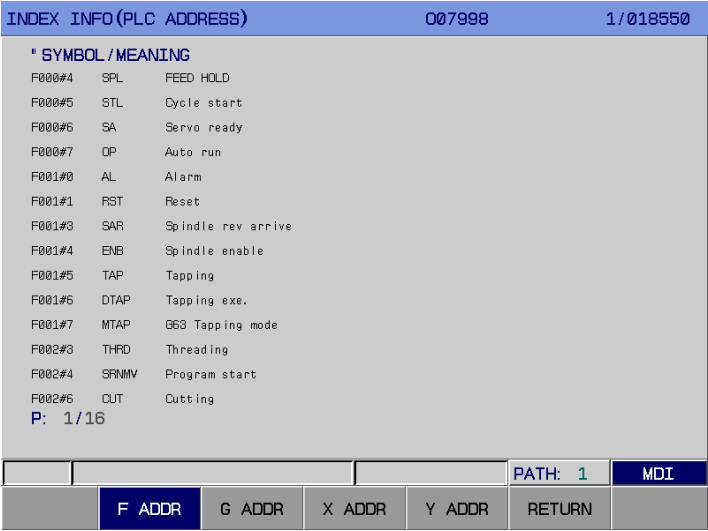

Fig. 3-9-8
7. PLC.AD page In <HELP> page, press soft key 【PLC.AD】 to enter this page. There are four subpages, including 【F. ADDR】, 【G. ADDR】, 【X. ADDR】and 【Y. ADDR】, as is shown in figures 3-9-8~3-9-11: